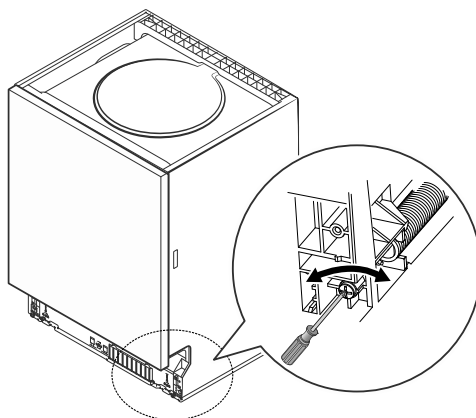

Fig.15
- You adjust the strength of the springs using the screws located on the bottom part of the front of the dishwasher (Fig. 15).
3. You adjust the strength of the springs (left and right) using the screws located on the bottom part of the front of the dishwasher (Fig. 15). To increase the strength turn clockwise. To decrease the strength turn counter clockwise.